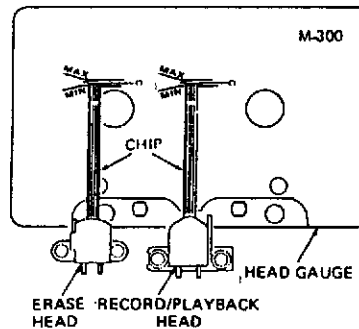

Fig.2
- Set the unit in the playback mode and place the adjustment chip on the head gauge as show in the Fig. 2.